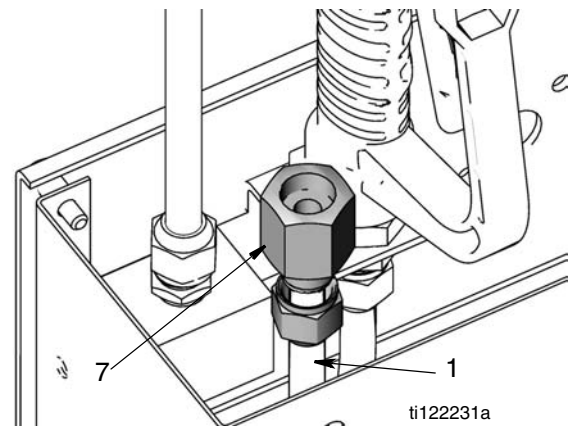

FIG. 17
7. Attach fluid inlet tube (1) to fluid inlet fitting (7) (FIG. 17). Tighten securely.